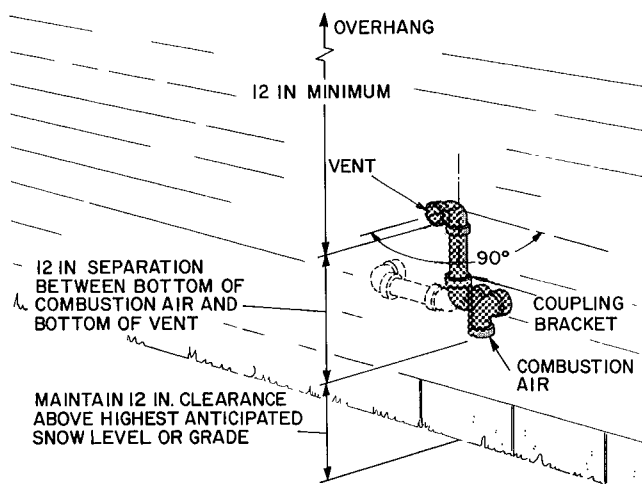

**Fig. 4 — Sidewall Vent Terminal Installation
Install kit as follows when combustion-air and vent pipes exit through sidewall 12 in. or more above highest anticipated snow level or grade (Fig. 4).
NOTE: The solid-line arrangement in Fig. 4 is preferred. The dashed-line arrangement is an option for the vent pipe only.
3. Install elbows as shown in Fig. 4. Clean them and apply cement using procedures described in Combustion-Air and Vent Piping.
4. Install bracket as shown in Fig. 4.
5. Position vent-pipe assembly, maintaining a 12-in. separation. Cement vent pipe in elbow as shown in Fig. 4.
6. For applications using vent-pipe option (indicated by dashed lines in Fig. 4), rotate elbow 90° from position shown.